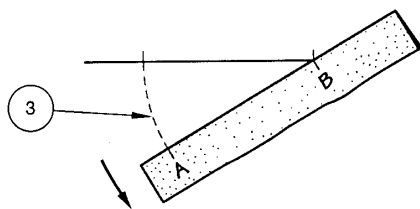

FIGURE 2.22 ■ Step 3, begin the circle construction.
- Step 3. Pivot the trammel at point B, making tick marks at point A as you go, as shown in Figure 2.22, until the circle is complete.